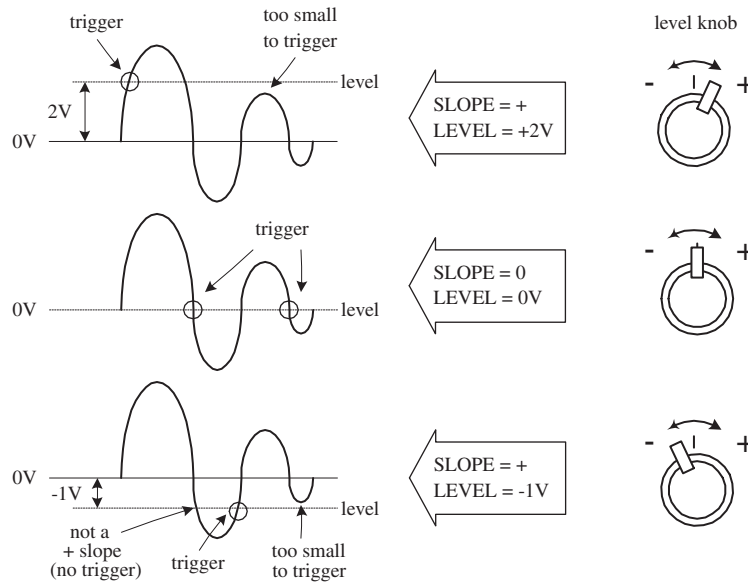

FIGURE 7.35
- **NORM:** Used for triggered sweep operation. The triggering threshold is adjustable by means of the triggering LEVEL control. No sweep is generated in the absence of the triggering signal or if the LEVEL control is set in such a way as to allow the threshold to exceed the amplitude of the triggering signal (see Fig. 7.35).
LEVEL knob: Used to trigger a sweep. LEVEL sets the point when the scope will trigger based on the amplitude of the applied signal. The level can be shifted up or down. The READY/TRIGGER indicator turns on when the sweep is triggered, indicating that the triggering LEVEL control is within the proper range (see Fig. 7.35).